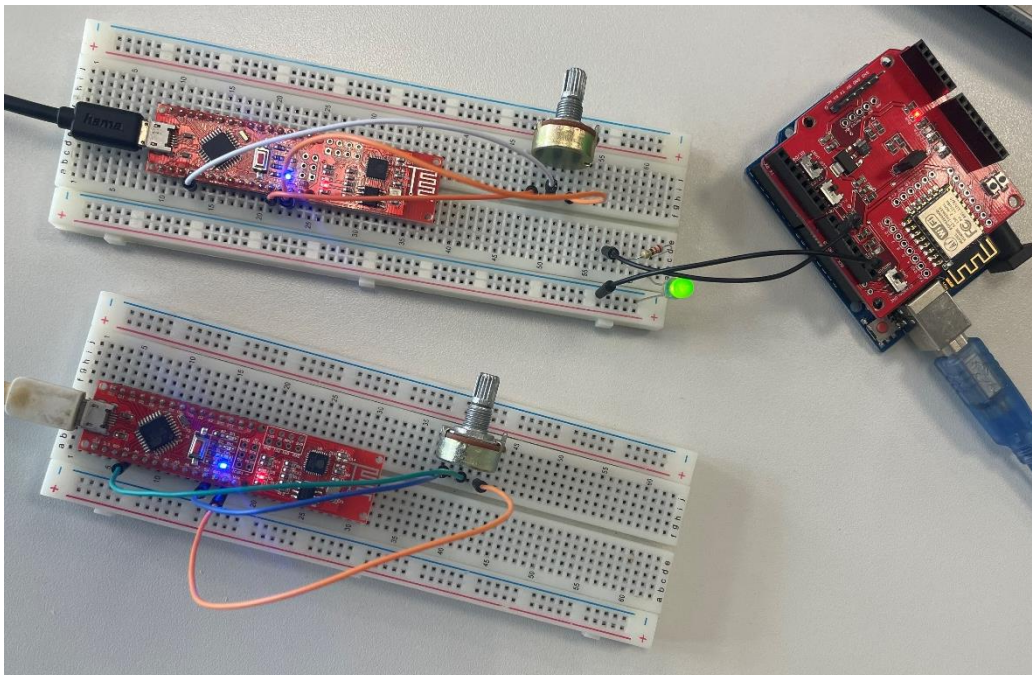

Fig.2 Actual Hardware Setup
**Hardware Implementation :** As per the block diagram, our actual hardware setup looked as given in the figure 2.